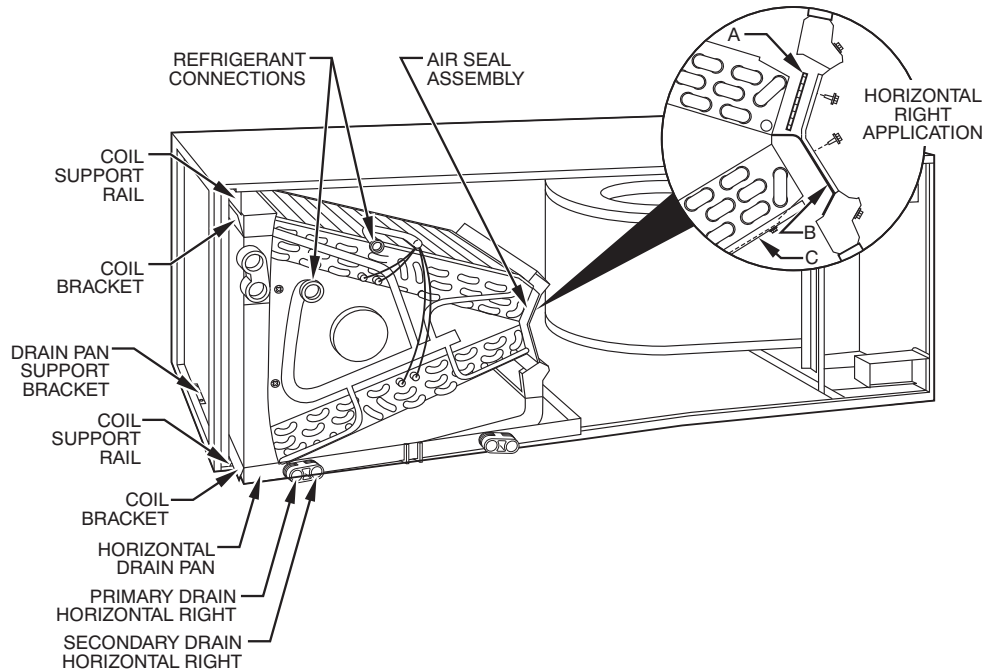

Fig. 7 - A-Coil in Horizontal-Right Application
- b. If fan coil is against wall, secure fan coil to wall stud using 1/8-in. (3mm) thick right-angle brackets. Attach brackets to fan coil using No. 10 self tapping screws and to wall stud using 5/16-in. (8mm) diameter lag screws. (See Fig. 7.)